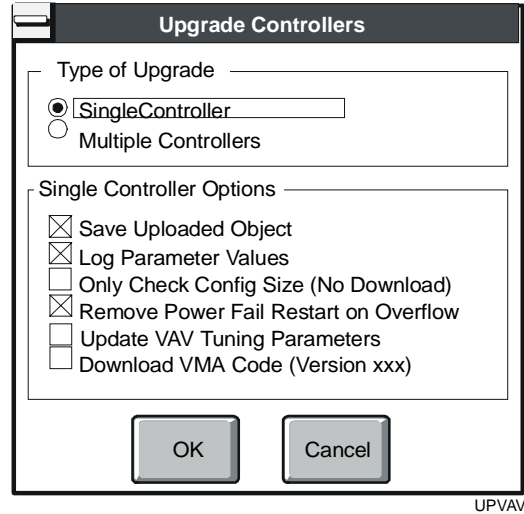

Figure 4-3: Upgrade Controllers Dialog Box
1. On the Upload menu, click Upgrade Controllers. The Upgrade Controllers dialog box appears (Figure 4-3).
Note: HVAC PRO software only removes Power Fail Restart if you selected that option in the Upgrade Controllers dialog box (refer to Figure 4-3). An X displays in the box next to Remove Power Fail Restart on Overflow when it is selected.